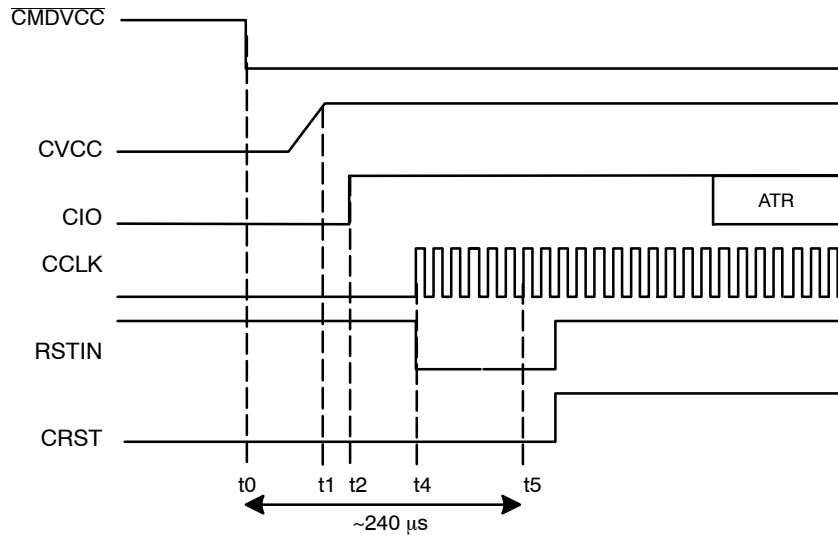

Figure 4. Activation Sequence – RSTIN Mode (RSTIN Starting High)
The clock can also be applied to the card using a **RSTIN mode** allowing controlling the clock starting by setting RSTIN Low (Figure 4). Before running the activation sequence, that is before setting Low  $\overline{\text{CMDVCC}}$  RSTIN is set High. The following sequence is applied:
- Between t2 (Figure 4) and t5 = 240  $\mu$ s, RSTIN is reset to LOW and CCLK will start precisely at this moment allowing a precise count of clock cycles before toggling CRST Low to High for ATR (Answer To Reset) request.